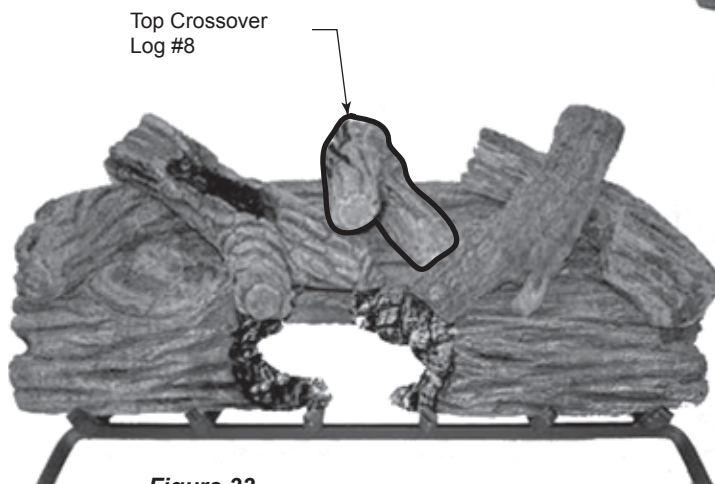

**Figure 33 -
9. Place top crossover log #8 as shown. *Figure 33*